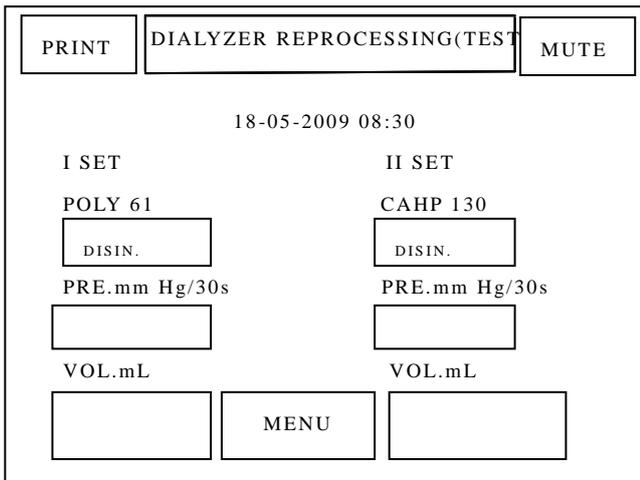
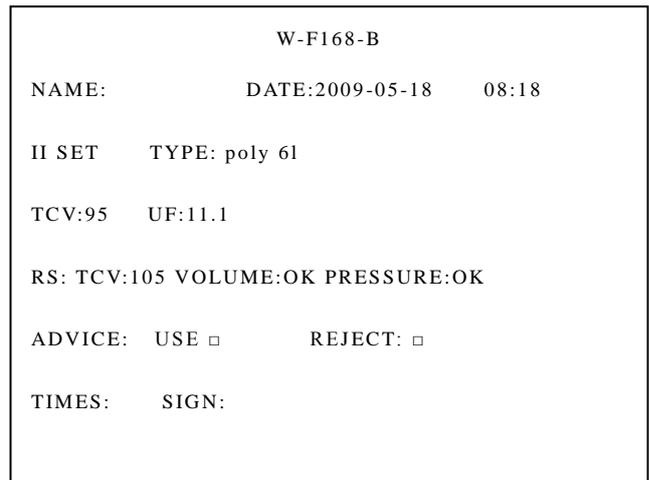

Figure 9-9
Figure 9-10
(8) The result will be displayed after automatic procedure finish (Figure 9-9) and be printed out as shown in Figure 9-10 (Note: It is a normal phenomenon that the blood chamber volume may increase for some dialyzers.)